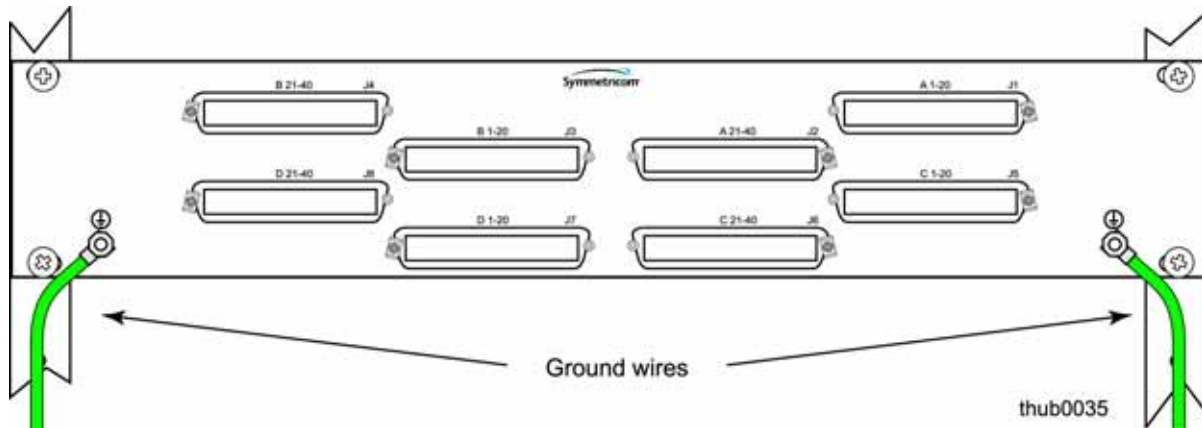

Figure A-2. Wire-wrap Panel Ground Connection
2. Crimp the supplied spade lug to one end of the 1.5 mm² / 16 AWG wire and connect it to the ground terminals on the front panel of the wire-wrap panel (Figure A-2).